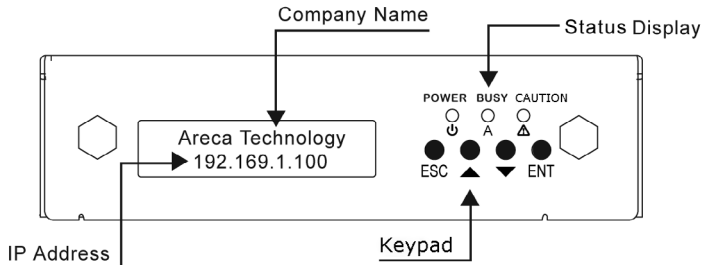

Figure 2-2, LCD Panel LED
There are a variety of status conditions that cause the RAID storage panel monitoring LED to light. The front panel LCD comes with three (3) status-indicating LEDs. The LEDs on the front panel are defined, from left to right, Power, Busy, and Caution, as shown in Figure 2-2.